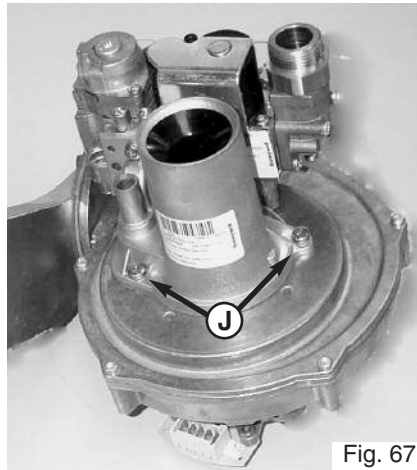

Fig. 67
3. Unscrew the two screws from the venturi J and remove with the gas valve (Fig. 67);